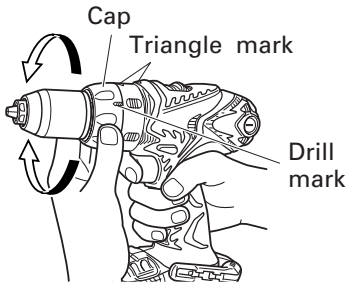

Fig. 22
9. Confirm the cap position (See Fig. 22)
(2) Tightening torque indication (See Fig. 22)
(3) Adjusting the tightening torque (See Fig. 22)